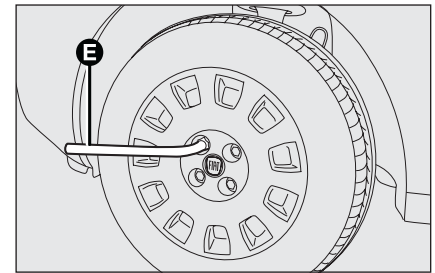

fig. 13
For a more accurate reading, check pressure gauge **F**-fig. 13 with the compressor off;
- loosen the bolts of the wheel to be replaced by about one turn with the wrench provided **E**-fig. 13; if the car is fitted with alloy rims, shake the car to facilitate removing the rim from the wheel hub;